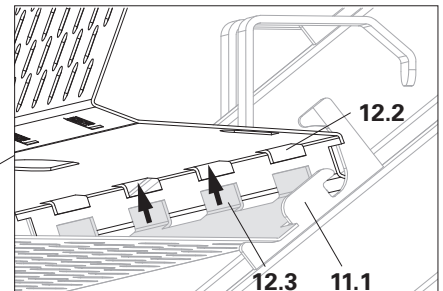

Fig. A2.09b
1. Position the second step (12) on the first step together with the riser. (Fig. A2.09a) The teeth (12.3) of the preceding step must engage in the slots (12.2) of the riser. (Fig. A2.09b) → The step is resting in the supports (11.1) of the Stair Stringers UA.